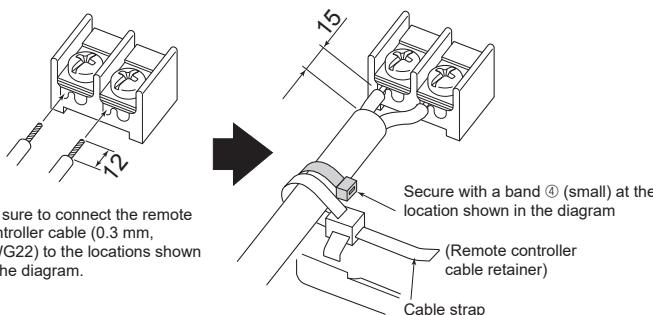

Fig. 7-3
7.1. Indoor unit (Fig. 7-1) (Fig. 7-2) (Fig. 7-3)